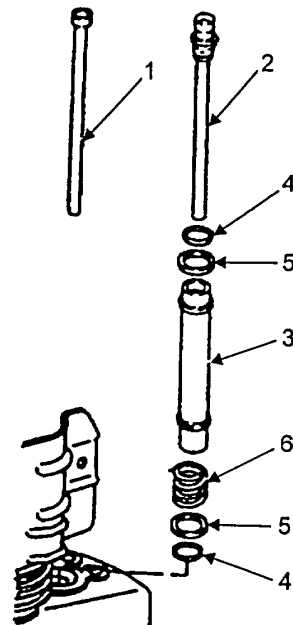

FIGURE 5-18. PUSHROD ASSEMBLY
- b. Remove pushrod (Figure 5-18, Item 1) and complete pushrod (2) from protection tubes (3).
- c. Remove protection tubes (3), preformed packings (4), shims (5) and pressure springs (6). Discard packing and springs.